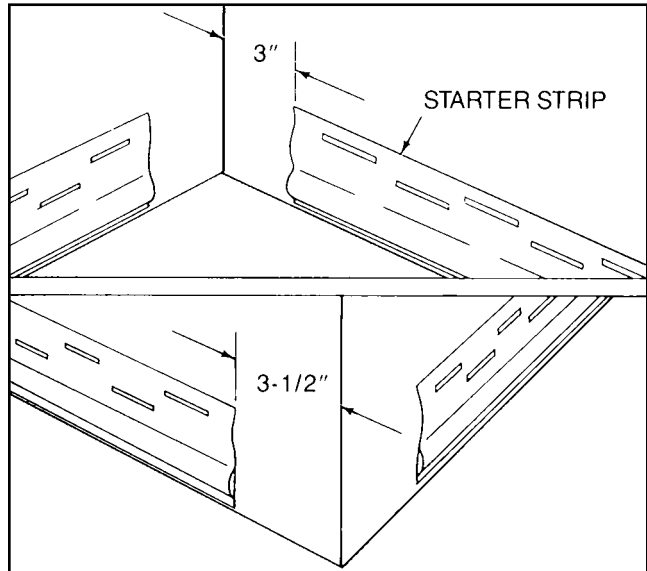
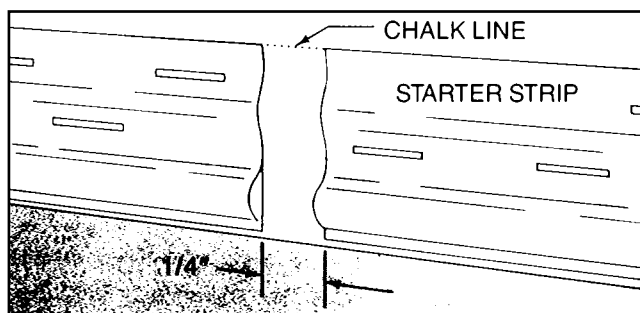
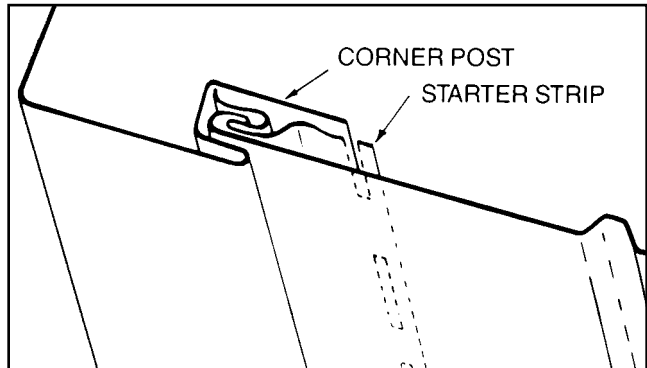

Fig 5.3
Fig 5.2
Fig 7.3
**2. STARTER STRIP** Align the top of the starter strip with the chalk line and install along the bottom of the building. Keep ends 1/4" apart to allow for expansion (Fig. 5.2). Allow 3" at inside corners for corner posts and 3-1/2" at outside corners for corner posts (Fig.5.3). If installing with insulation, furr or shim as necessary to accommodate thickness and attach starter strip to furring.
**4. STARTER STRIP** Install starter strip into the channel of the corner post (Fig. 7.3). Begin by putting a nail in the top of the first nailing slot (same as on corner post) and make certain starter strip remains true during installation. Make sure there is enough clearance within the post channel for a siding panel to properly lock onto the starter strip. If necessary, allow at least 1/4" clearance at the ends of starter strip pieces for expansion (see Fig. 5.2, page 10).